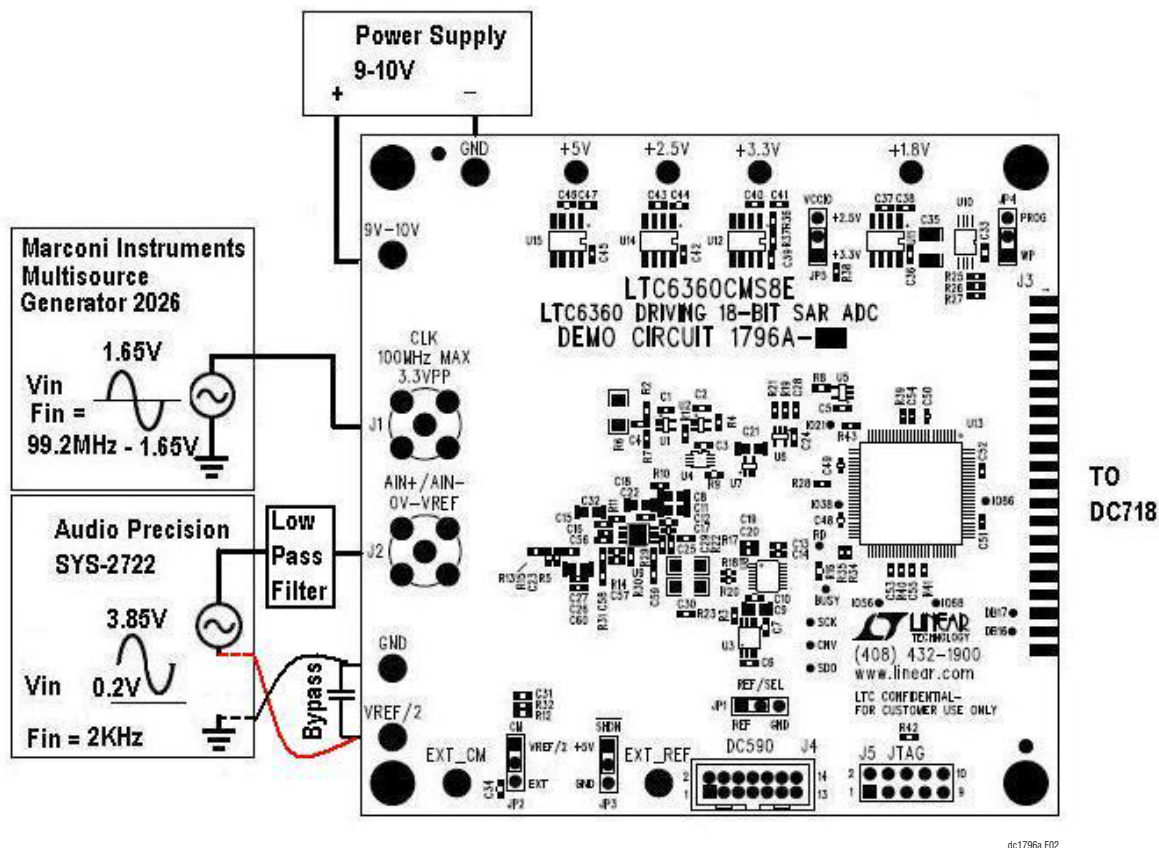

Figure 2. DC1796A Test Diagram
This board is tested by measuring the distortion at  $-1$ dBFS, 2kHz single-ended input, as shown in Figure 2.
1. Make sure that all the jumpers are set as shown in Figure 2 (DC1796A test diagram).